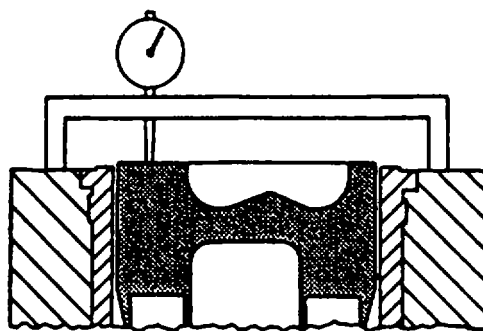

FIGURE 3-172. Measuring Piston Protrusion
- (1) Mount a dial indicator in gage (JDG451). Place gage on top of cylinder block in such a manner that dial indicator can be set at "zero" with top of block.
- (2) Position gage across piston with outer ends on block so dial indicator plunger can contact top of piston, refer to FIGURE 3-172. Press down on top of gage and rotate crankshaft until piston is at TDC. Piston height must be checked at outer most diameter of piston.
- (3) Piston protrusion should be 0.003 to 0.012 inch (0.08 to 0.30 mm) to prevent piston-to-exhaust valve contact.